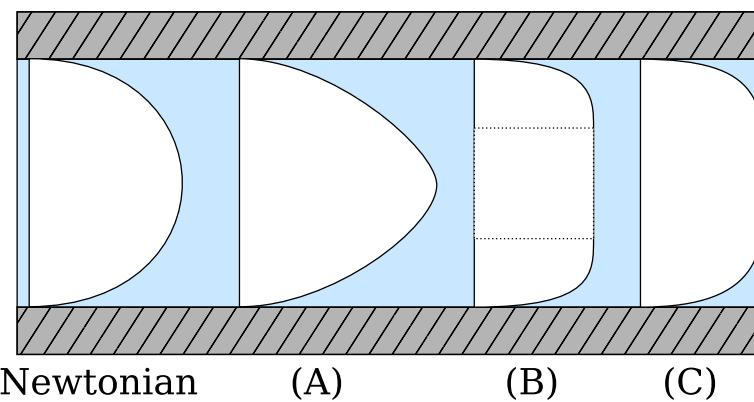

Figure 25: Non-newtonian flow profiles compared against the newtonian flow profile.
- 1) In Fig. 25, which profile corresponds to a viscoplastic fluid? [2 marks]
- 2) Which profile in Fig. 25 corresponds to a shear thickening fluid? [2 marks]